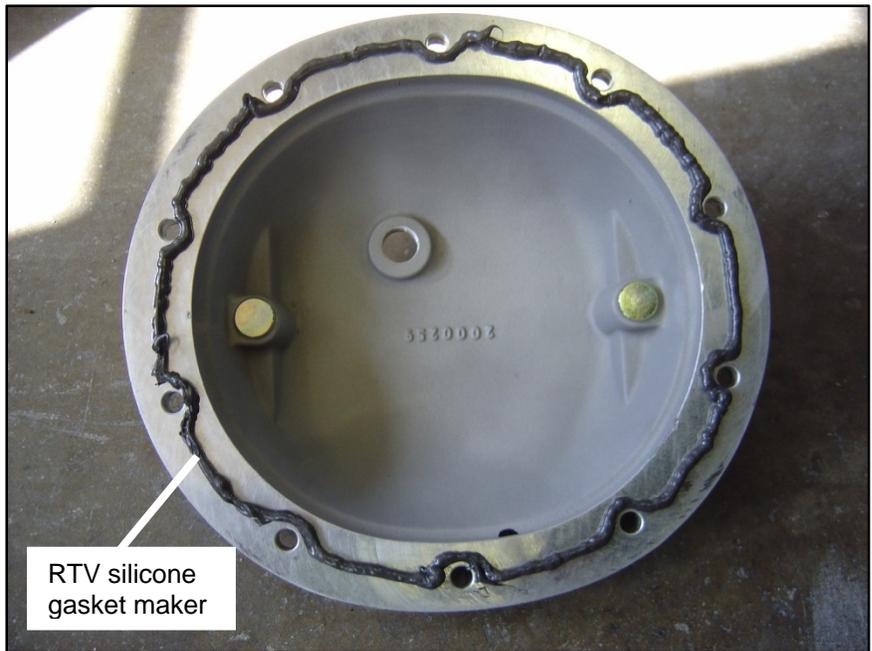

Figure 4
**STEP 11.** Apply a bead of RTV silicone gasket maker to the B&M Cast Aluminum Differential Cover. Run the bead inside the bolt holes (See Figure 4).